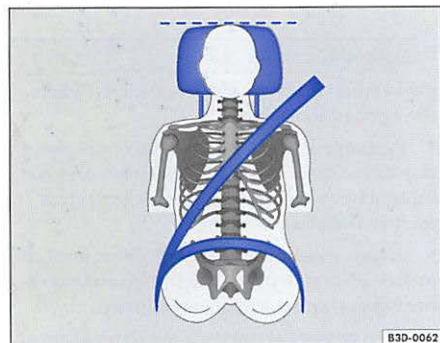
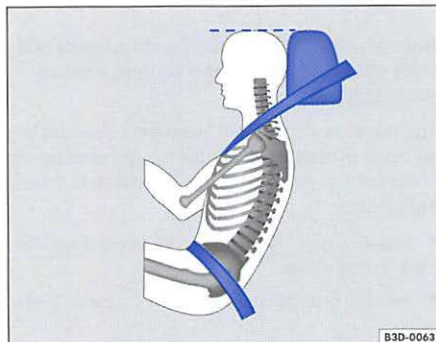

Fig. 37 Viewed from in front: properly adjusted head restraints and proper belt adjustment
Fig. 38 Viewed from side: properly adjusted head restraints and proper belt adjustment
- Adjust the head restraint so that the upper edge is as even with the top of your head as possible but no lower than eye level and so that it is as close to the back of your head as possible ⇒fig. 37 and ⇒fig. 38.